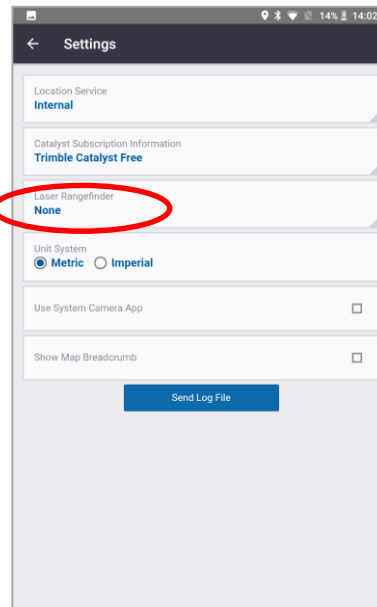

Figure 2
2. Tap on the **Laser Rangefinder** box (Figure 2)